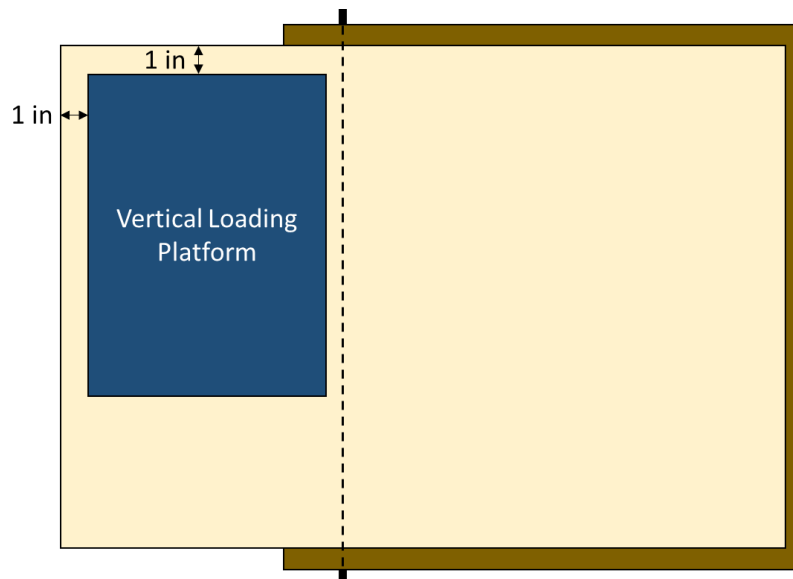

Figure 5: Top View of Load Placement (not to scale)
- d) **Loading Stage** – Details of the load placement are shown in Figure 5. This stage occurs in two steps: 1) removal of front and side panels and 2) placement of vertical surcharge. During each step, the wall will be checked for the following three criteria: 1) excessive deformation (any portion of the wall extending outside imaginary planes extending vertically from base of sandbox), 2) excessive soil leakage (more than 30 cm³ of sand passing out of the sandbox), and 3) catastrophic failure. The team will be penalized for excessive soil loss and excessive deformation, but will be disqualified for a catastrophic failure.
- i. When directed by judge, the team shall remove the front and side panels of the sandbox. After the panels are removed, the judge will wait one (1) minute and then check the three criteria.
- ii. If the wall does not fail catastrophically, the team will then place 50 lbs of sand in the vertical surcharge platform (see Appendix B for the platform details). The team will have one (1) minute to place the load. After the load is placed, the judge will wait one (1) minute and then check the three criteria.